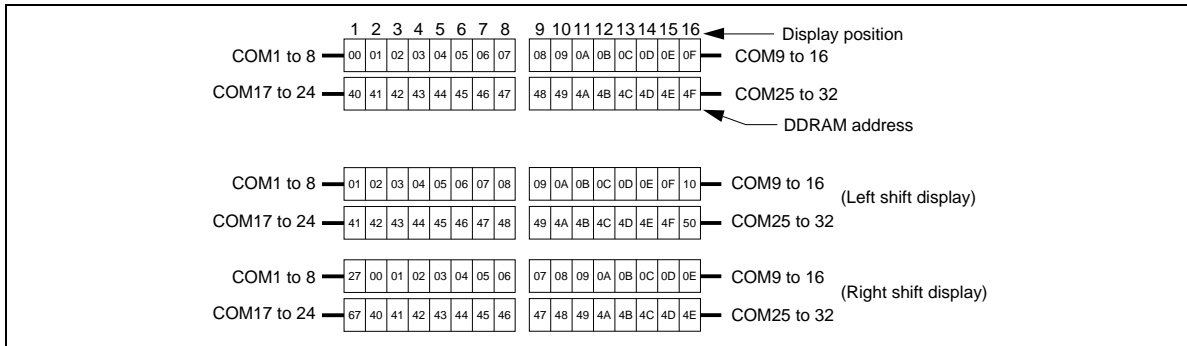
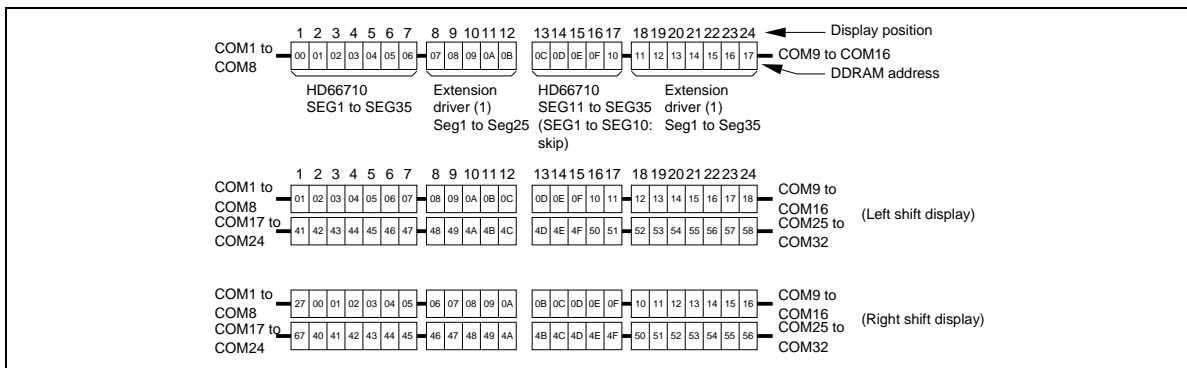

Figure 4 2-line by 16-Character Display Example
Figure 5 2-Line by 24 Character Display Example
- Case 1: The first line is displayed from COM1 to COM16, and the second line is displayed from COM17 to COM32. Care is required because the end address of the first line and the start address of the second line are not consecutive. For example, the case is shown in Figure 5 where 16 × 2-line display is performed using the HD66710. When a display shift operation is performed, the DDRAM address shifts. See Figure 4.
- Case 2: Figure 5 shows the case where the EXT pin is fixed to high, the HD66710 and the 40-output extension driver are used to extend the number of display characters. In this case, the start address from COM9 to COM16 of the HD66710 is 0AH, and that from COM25 to COM32 of the HD66710 is 4AH. To display 24 characters, the addresses starting at SEG11 should be used.
When a display shift operation is performed, the DDRAM address shifts. See Figure 5.